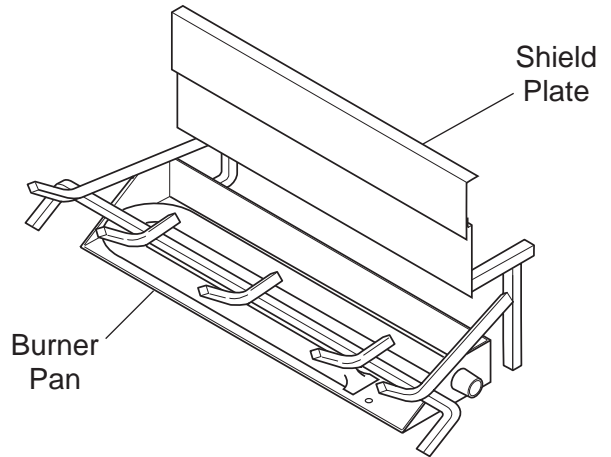

Figure 137 - Sliding Shield Plate Down Back of Burner Pan
1. Slide shield plate down back of burner pan. See *Figure 137*.